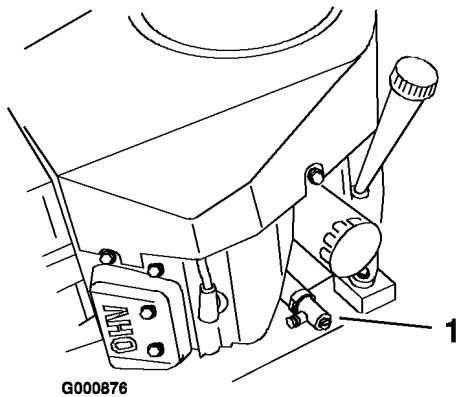

Figure 26
5. Slide the drain hose over the oil drain valve (Figure 26).
6. Place a pan below the oil drain hose. Use either a flat screw driver, 3/8 inch (10 mm) wrench to open valve (Figure 26).
7. Rotate valve end counterclockwise to open valve (Figure 26).
8. When oil has drained completely, rotate valve end clockwise to close the valve (Figure 26).
10. Clean around the oil dipstick and unscrew the cap (Figure 26).
11. Slowly pour approximately 80% of the specified oil into the filler cap (Figure 26). Refer to Servicing the Engine Oil, in Engine Maintenance, page 22.